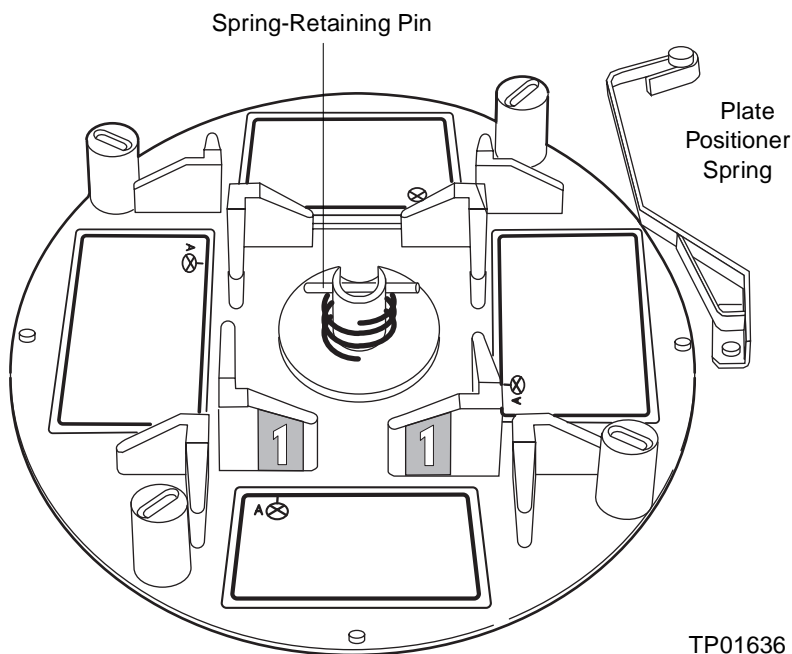

Figure 7-30 Sample Plate Carrier
Caution: To prevent injury to yourself or damage to the equipment, do not bend or detach the Plate Positioner Spring located in the rear of the sample compartment (Figure 7-30).
1. Push down about 1/4-inch on the spring-retaining pin in the center of the plate carrier to disengage the carrier from the drive shaft (Figure 7-30).